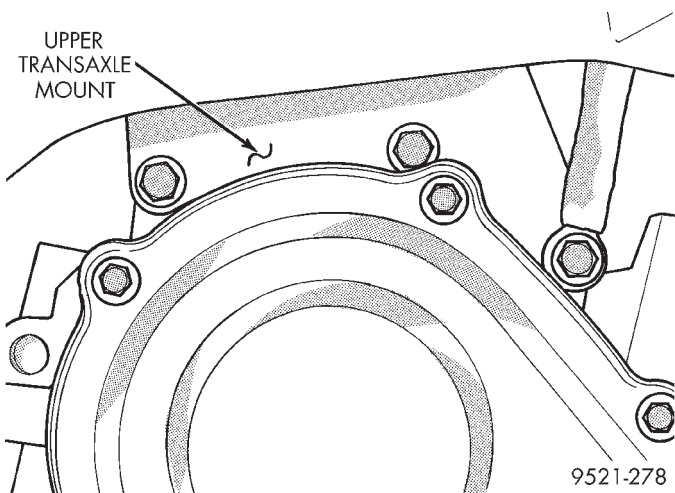

Fig. 50 Left Mount Bolts
(13) Remove remaining left upper mount bolts (Fig. 50).